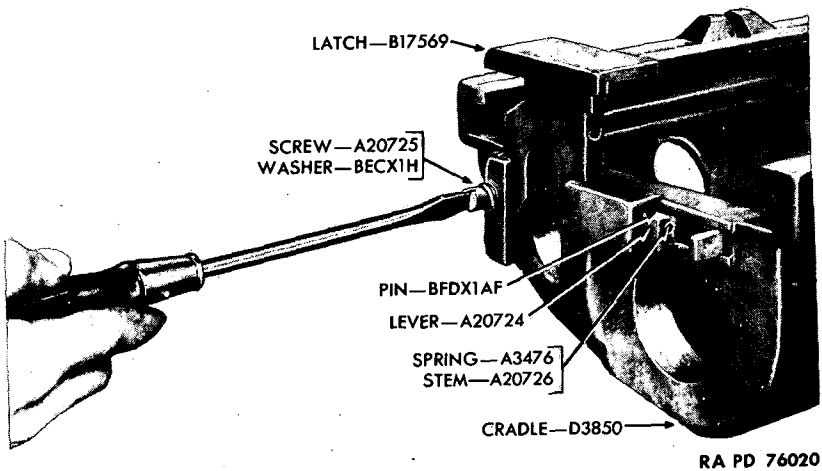

Figure 58—Removing Piston Rod Latch
(1) Removal of cradle from the carriage is covered in TM 9-319 and TM 9-320.
(2) **DISASSEMBLY OF PISTON ROD LATCH AND LEVER** (figs. 58 and 59).
(3) ASSEMBLY OF PISTON ROD LATCH AND LEVER (figs. 58 and 59).